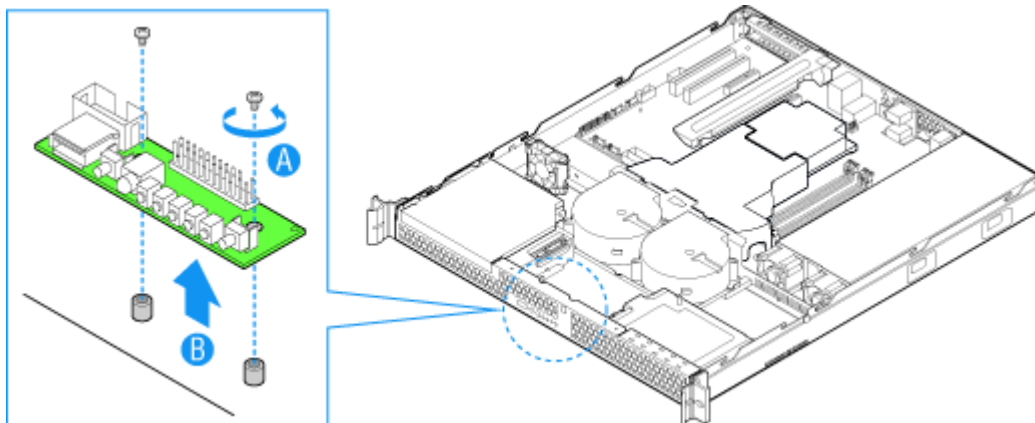

Figure 127: Removing the Front Panel Board
6. Remove the two screws that attach the front panel board to the server. See letter “A” in Figure 127.